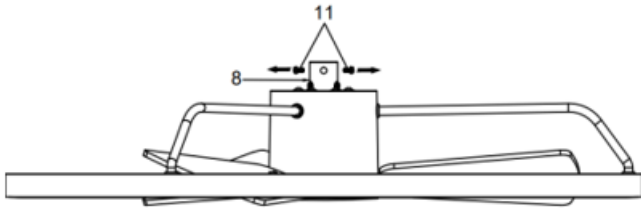

Fig. 6.2
2. Loosen the set screws (11) on the coupler (8). (Fig. 6.2)